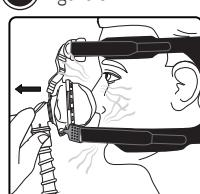

Figure 6
6. Re-seat the mask by pulling the mask directly away from your face and set it back into place gently (Figure 6).